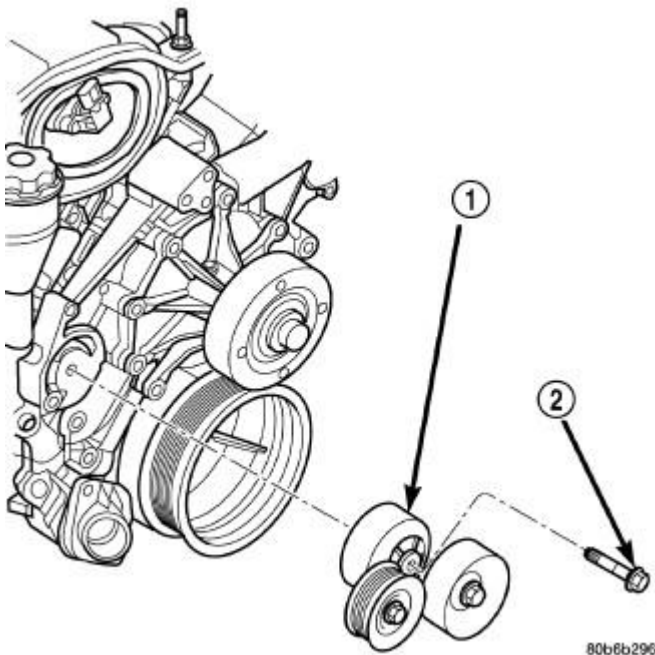

Fig. 178: Tensioner Assembly & Fastener
7. Remove accessory drive belt tensioner assembly (1). Refer to **Fig. 178**.